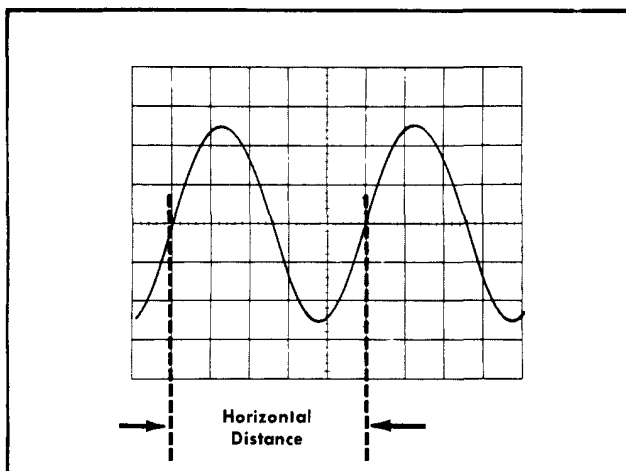

Fig. 2-12. Measuring time duration between points on a waveform.
5. Set the TIME/DIV switch to the fastest sweep rate that displays less than eight divisions between the time measurement points (see Fig. 2-12). See Selecting Sweep Rate in this section concerning nonlinearity of first and last division of display.
**Example.** As an example of this method of measurement, assume that the distance between the time measurement points is five divisions (see Fig. 2-12) and the TIME/DIV switch is set to .1 mSEC with the magnifier off. Using the formula:
**Example.** As an example of this method of measurement, the frequency of the signal shown in Fig. 2-12 having a time duration of 0.5 millisecond is: